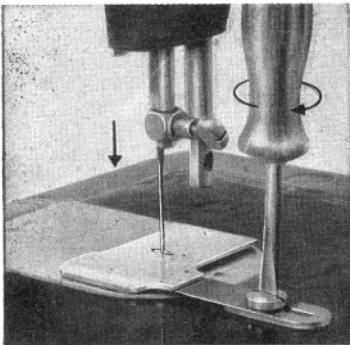

Fig. 1
- c) fasten the feed cover plate to the bed of the machine, as shown in Fig. 1 making certain to locate it in such a way that the needle will penetrate at the exact centre of the needle hole in the plate without touching the sides of the plate.